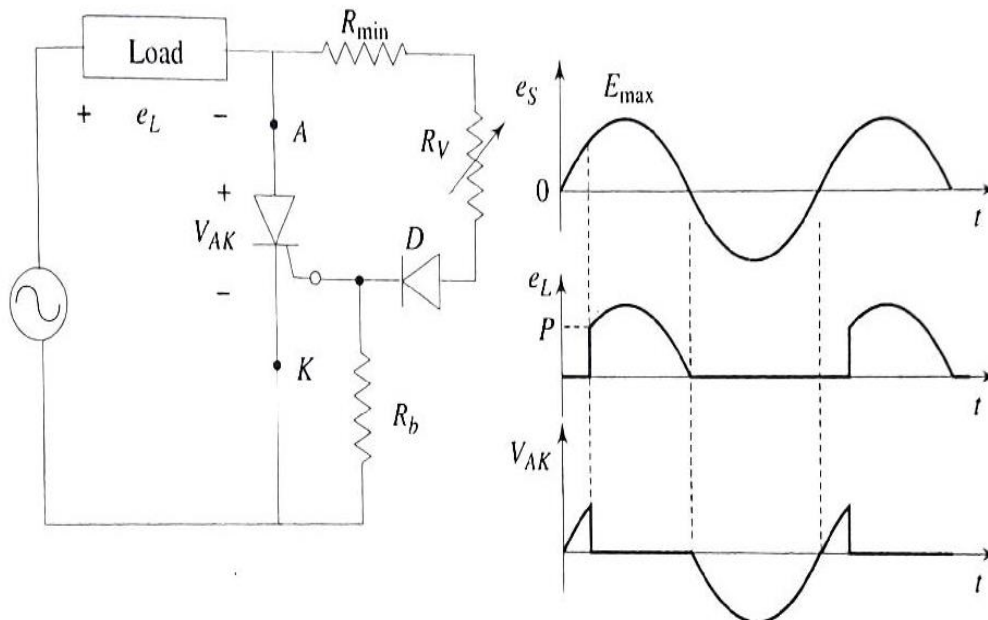

Fig. 2.11 R-firing circuit and associated voltage waveforms
- The circuit in Fig.2.11 shows a simple method for varying the trigger angle and therefore, the power in the load.
- The gate current will increase as e_s increases towards its peak value. When i_g reaches a value equal to $I_{g(min)}$, the SCR turns "on" and e_L will approximately equal e_s (refer to point P on the waveform in Fig. 2.11).
- The load-voltage waveform in Fig.2.11 can be controlled by varying R_v which is the resistance in the gate circuit.
- As shown in Fig.2.11, the limiting resistor $R_{(\min)}$ is placed between anode and